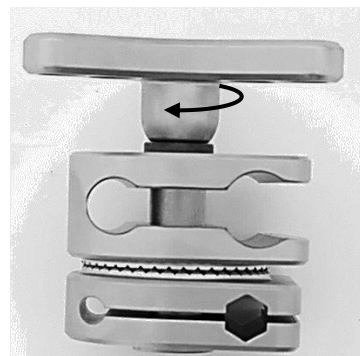

Fig. 12
Place the star grip handle (1) on the threaded rod (4), as shown in Figure 12, and tighten it clockwise.